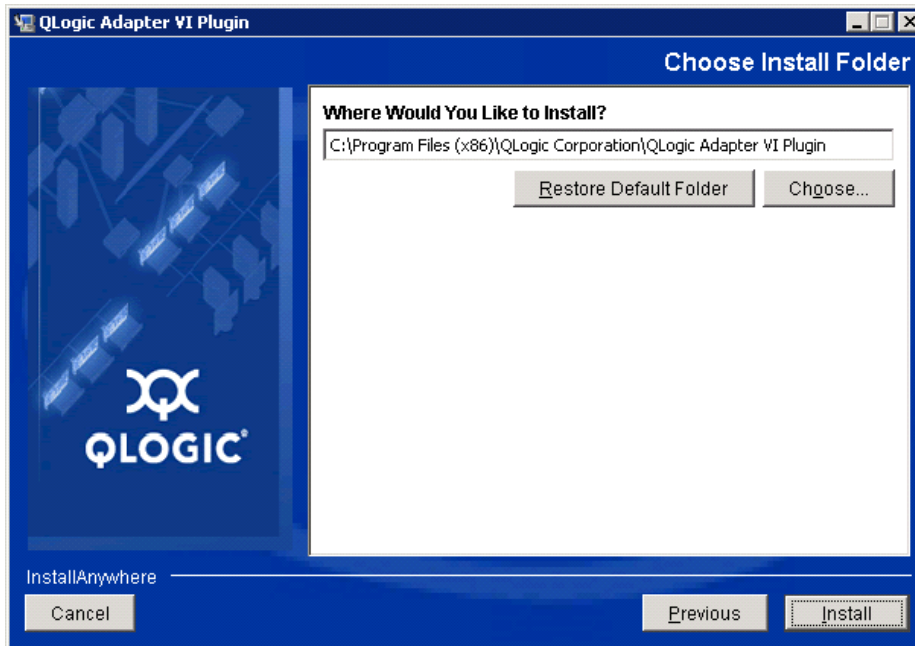

Figure 2-12. QLogic Adapter VI Plug-in Wizard: Choose Install Folder
4. Select the installation directory, and then click **Install** (see Figure 2-12).